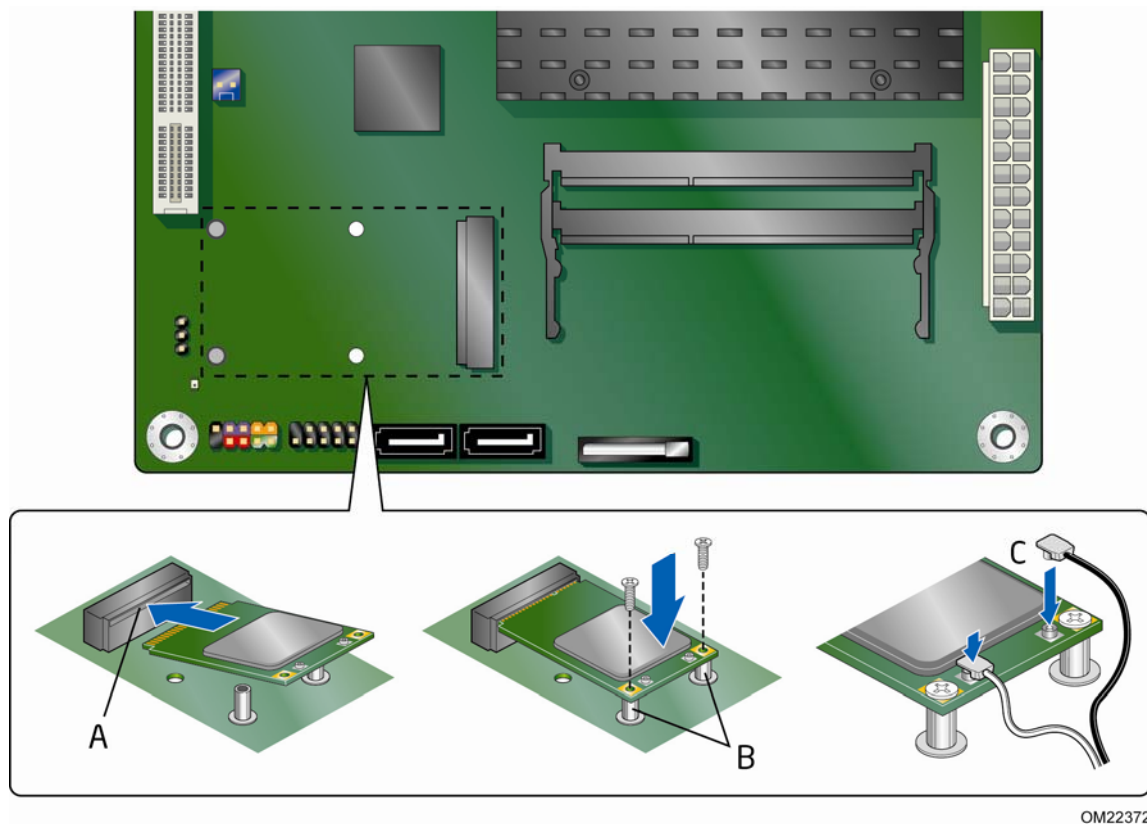

Figure 9. Installing a Full-Mini Card Wireless LAN Card
A wireless LAN card can be installed in the Desktop Board's PCI Express Mini Card slot. To install a Full-Mini Card wireless LAN card, see Figure 9 and follow these steps:
2. Insert the wireless LAN card into the PCI Express Mini Card connector (Figure 9, A) at a slightly upward angle.
3. Align the card's mounting holes over the board's steel mounting posts (Figure 9, B) and attach the card with the supplied screws.
4. Attach your system's antenna wires to the connectors (Figure 9, C) on the wireless LAN card as shown.